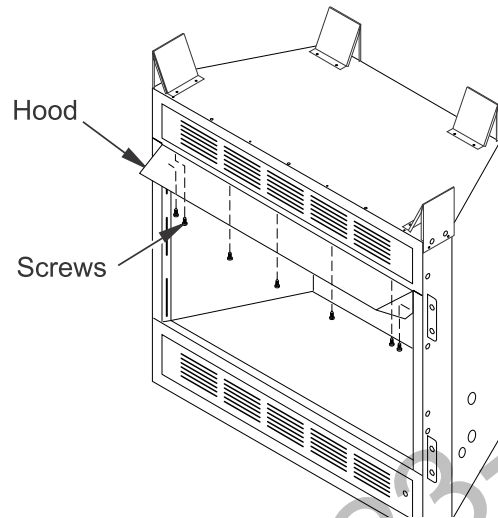

Figure 21 - Screw and Hood Placement
NOTICE: The firebox identification label (including model number, serial number, clearances, etc.) is located in the right side screen pocket area on the front of the firebox. See Figure 21, page 17.
1. Attach hood to firebox using screws provided (see Figure 21).